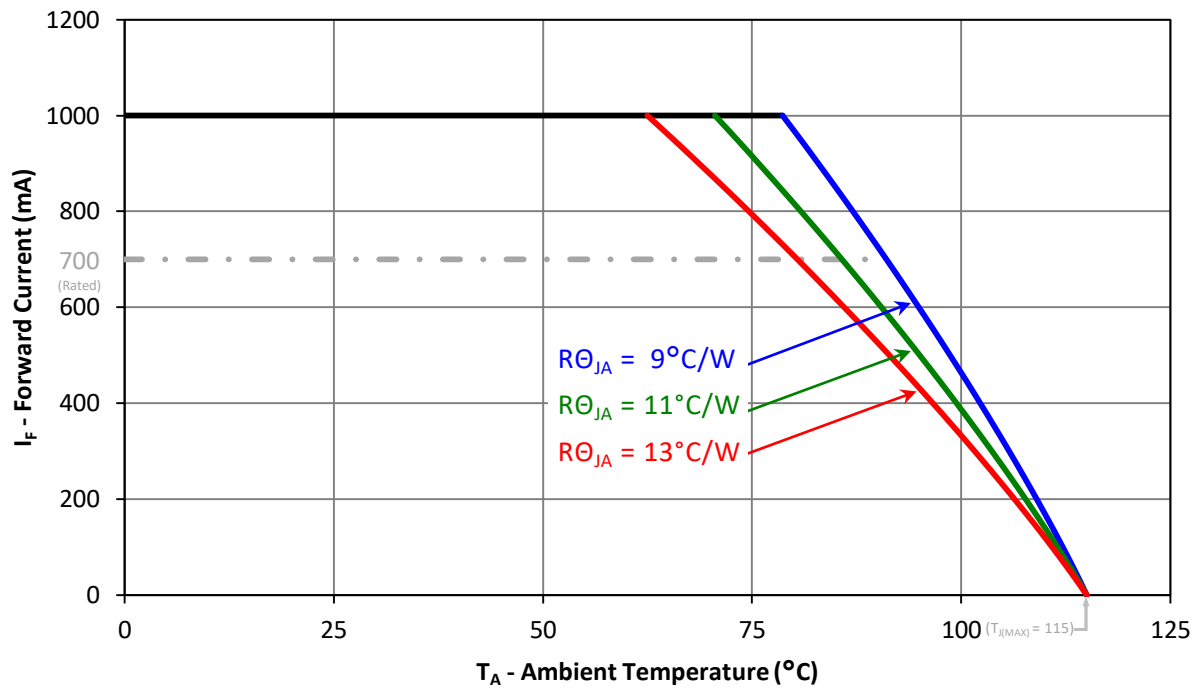

Figure 11: Maximum forward current vs. ambient temperature based on $T_{J(\text{MAX})} = 115^{\circ}\text{C}$
- Maximum DC forward current is determined by the overall thermal resistance and ambient temperature. Follow the curves in Figure 11 for current derating.
Notes for Figure 11: